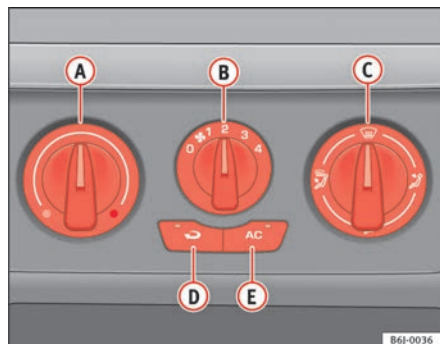

Fig. 86 On the dash panel there are the heating controls
- Using the controls ⇒ fig. 86 **A** and **C** and with the switch **B** you can adjust the temperature, the air distribution and the blower speed.